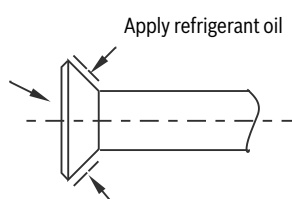

Fig.6-1
b. Before screwing up the flared nut, apply refrigerant oil at the outer surface of the pipeline flare and the taper surface of the connection nut. Screw up the nut for 3~4 circles beforehand (see Fig.6-1).